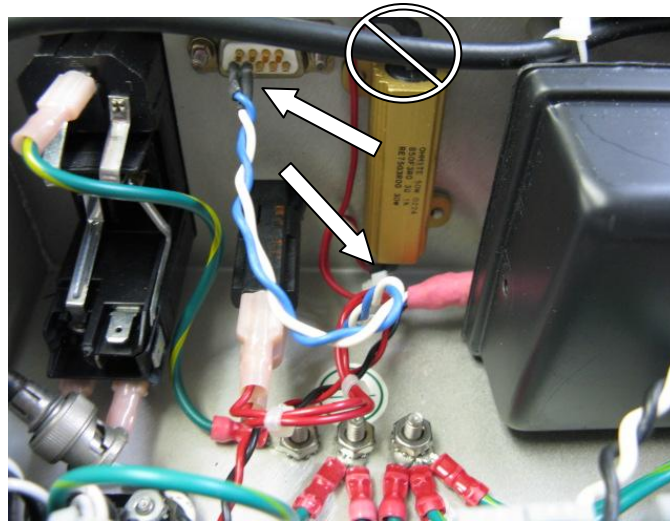

Figure 1-12a
10. Note the blue and white wire orientation. The top of the gold power resistor doesn't need resoldered; it goes to a connector on the circuit breaker. The bare red wire needs soldered to the bottom of the gold resistor, and the crimp connector goes to a circuit breaker connector also. See figures 1-12a & 1-12b.